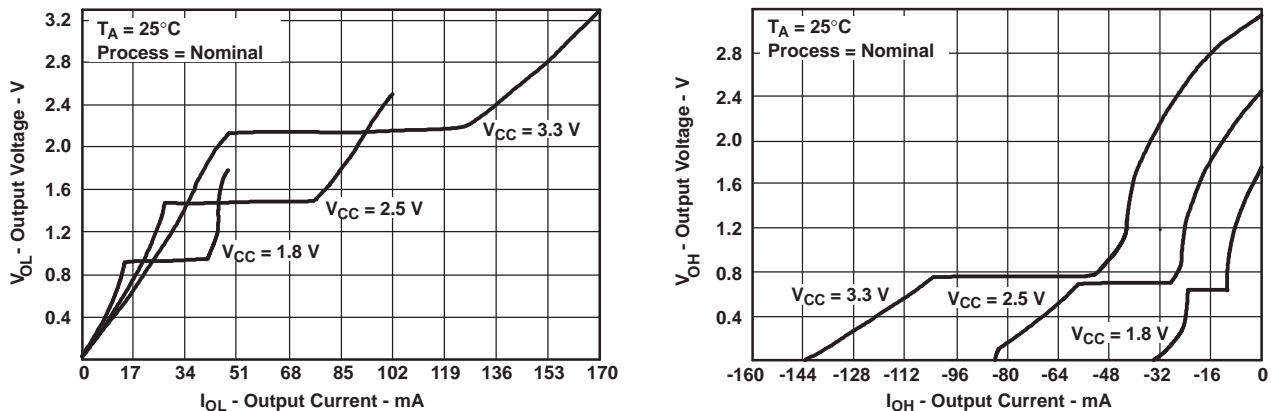

Figure 1. Output Voltage vs Output Current
A Dynamic Output Control (DOC™) circuit is implemented, which, during the transition, initially lowers the output impedance to effectively drive the load and, subsequently, raises the impedance to reduce noise. Figure 1 shows typical V_{OL} vs I_{OL} and V_{OH} vs I_{OH} curves to illustrate the output impedance and drive capability of the circuit. At the beginning of the signal transition, the DOC circuit provides a maximum dynamic drive that is equivalent to a high-drive standard-output device. For more information, refer to the TI application reports, *AVC Logic Family Technology and Applications*, literature number SCEA006, and *Dynamic Output Control (DOC™) Circuitry Technology and Applications*, literature number SCEA009.
(1) All unused inputs of the device must be held at V_{CC} or GND to ensure proper device operation. Refer to the TI application report, *Implications of Slow or Floating CMOS Inputs*, literature number SCBA004.
(2) Dynamic drive capability is equivalent to standard outputs with I_{OH} and I_{OL} of ±24 mA at 2.5-V V_{CC}. See Figure 1 for V_{OL} vs I_{OL} and V_{OH} vs I_{OH} characteristics. Refer to the TI application reports, *AVC Logic Family Technology and Applications*, literature number SCEA066, and *Dynamic Output Control (DOC™) Circuitry Technology and Applications*, literature number SCEA009.